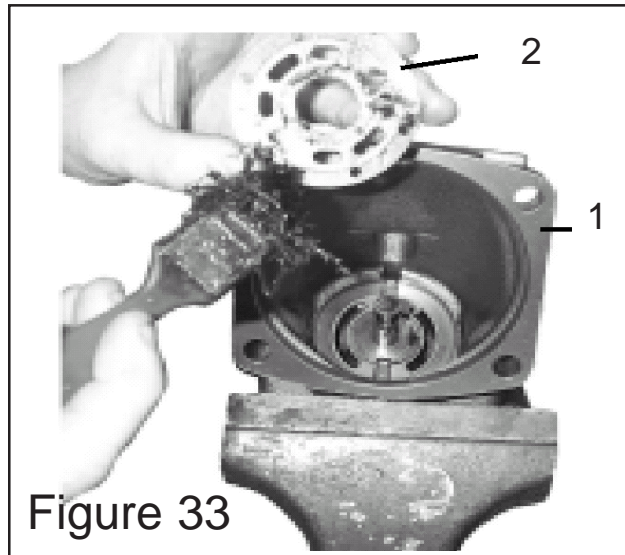
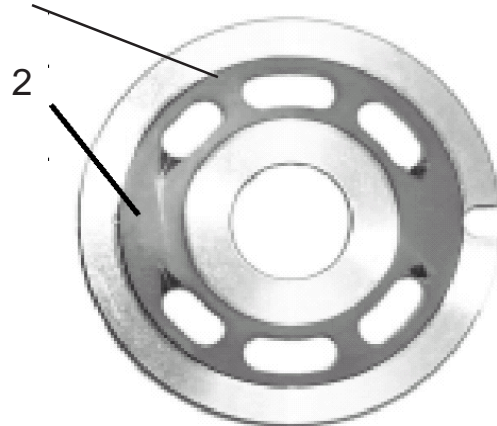

Figure 33
Figure 34
**16.** Install Valve Plate. Coat Valve plate (item 2) with a coat of grease (See Figure 33) will be to hold valve plate in housing during assembly. With the Barrel Hosing assembly in vise install the valve plate into it. This plate must be installed with the correct side down and the correct side up. (See Figure 34). Note the location of the notch in OD of valve plate.